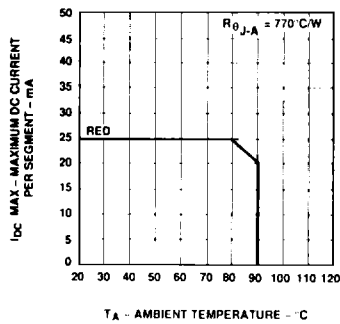

Figure 3. Maximum Allowable DC Current vs. Ambient Temperature.
2. Derate above 80°C at 0.63 mA/°C (see figure 3).